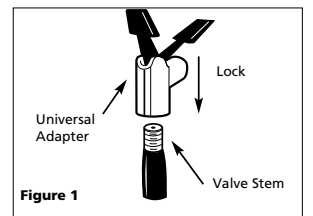

Figure 1
2. Attach the universal adapter from the inflator to the valve stem with the lever in the up position. Be sure to press universal adapter down over valve stem threads completely. When universal adapter is firmly in place, press locking lever down to lock onto valve stem (See Fig. 1).